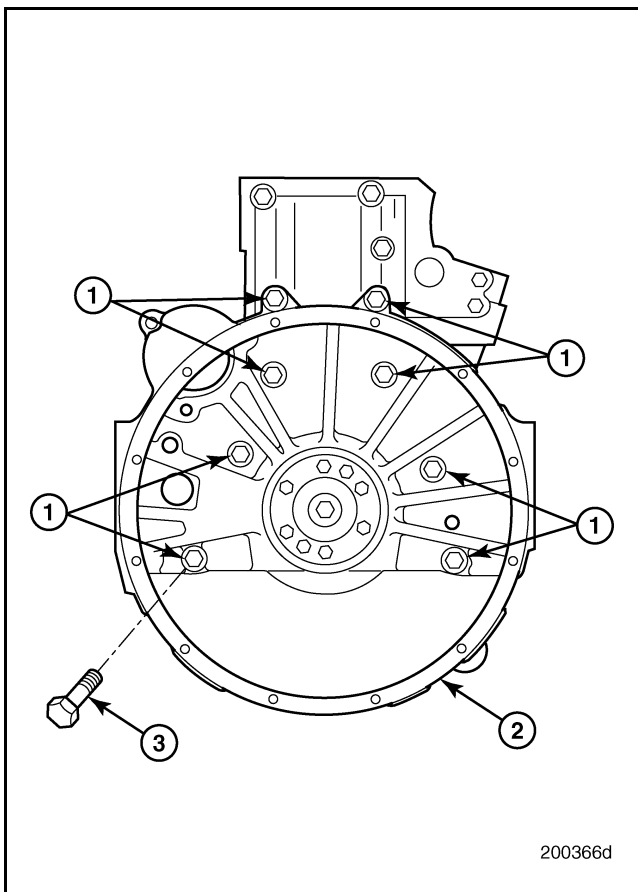

Figure 183 — Flywheel Housing Removal
1. Support the flywheel housing and remove the eight mounting capscrews (Figure 183).